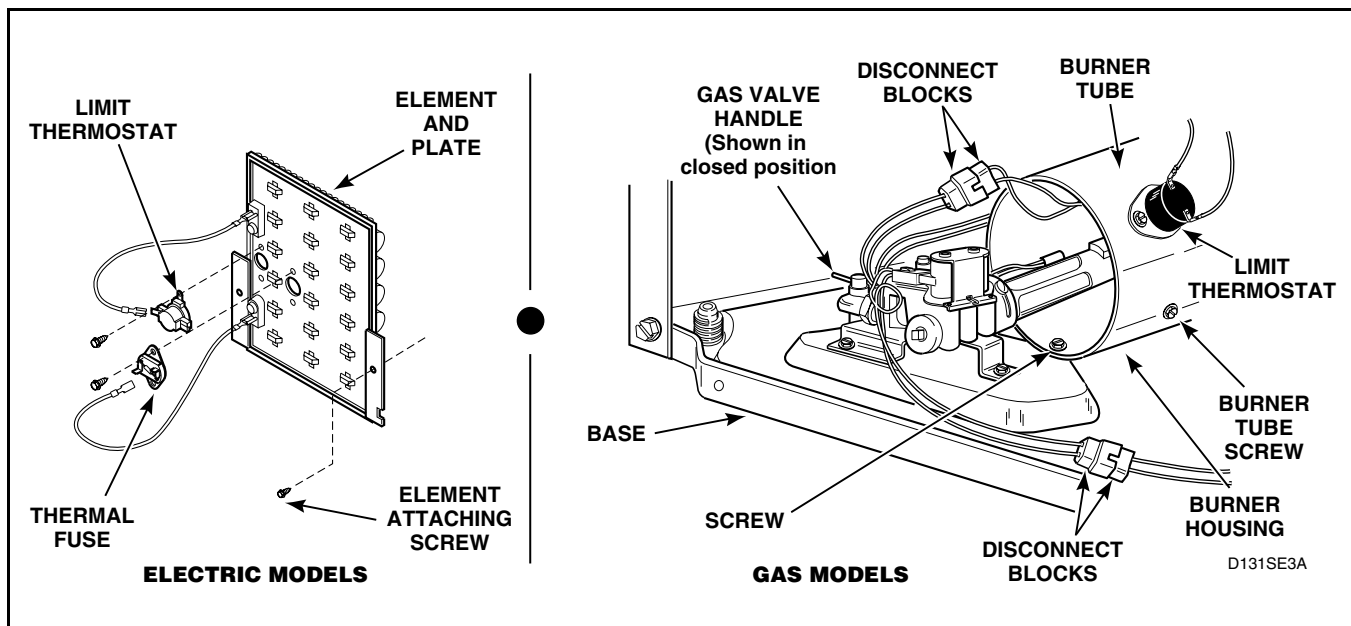
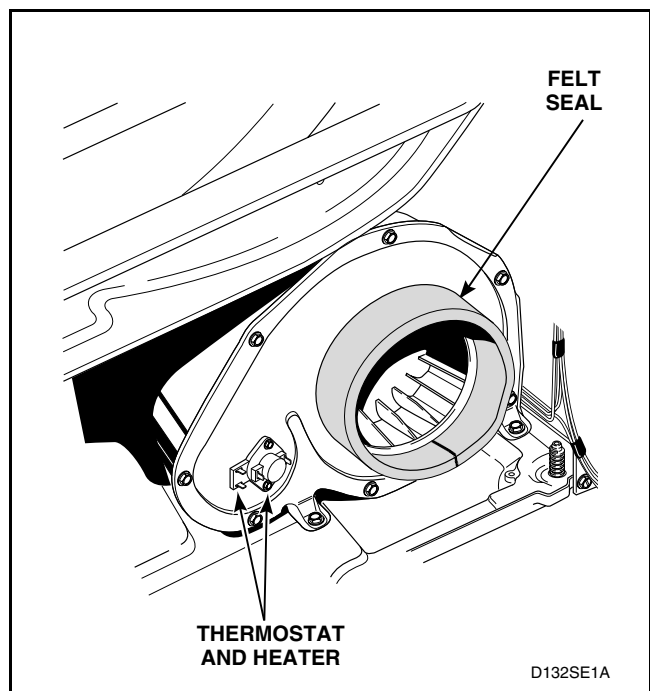

Figure 41
Figure 42
- (2) Gently lower the access panel to disengage guide lugs from bottom edge of front panel.
- (3) Close gas shut-off valve, disconnect igniter wires at disconnect blocks, sensor wires from sensor terminals, and wires from gas valve coils at the quick disconnect blocks. Refer to Figure 41.
- Disconnect igniter wires at disconnect blocks, sensor wires from sensor terminals, and wires from gas valve coils at quick disconnect blocks. Refer to *Figure 41*.
- Remove screw from right side of burner housing holding burner tube in place. Refer to *Figure 41*.
- Remove screw holding front of burner housing to dryer base and remove housing out through front of dryer. Refer to *Figure 41*.
- Disconnect wires and remove screws holding limit thermostat to burner housing or element plate. Refer to *Figure 41*.
1. Disconnect wires from thermostat. Refer to *Figure 41* or *Figure 42*.
- c. Remove screws holding thermostat to exhaust fan cover. Refer to *Figure 42*.
- c. Remove two screws holding element and plate to heater box and pull element down and away from heater box. Refer to *Figure 41*.
- d. Disconnect wires from element and plate. Refer to *Figure 41*.
- e. Remove screws holding thermostat and thermal fuse to element plate. Refer to *Figure 41*.
- c. Disconnect wires and remove thermostat attaching screws and remove thermostat and heater. Refer to *Figure 42*.
1. Disconnect wires from thermostat heater. Refer to *Figure 42*.
1. Disconnect wires from thermal fuse. Refer to *Figure 41*.
1. Disconnect wires from heater assembly. Refer to *Figure 41*.
**IMPORTANT:** When reassembling, be sure felt seal on exhaust fan cover makes air tight seal on flange of duct. Refer to *Figures 42 and 43*. If the seal is installed improperly, the airflow through the exhaust system will be restricted which can cause fire and dryer malfunction.